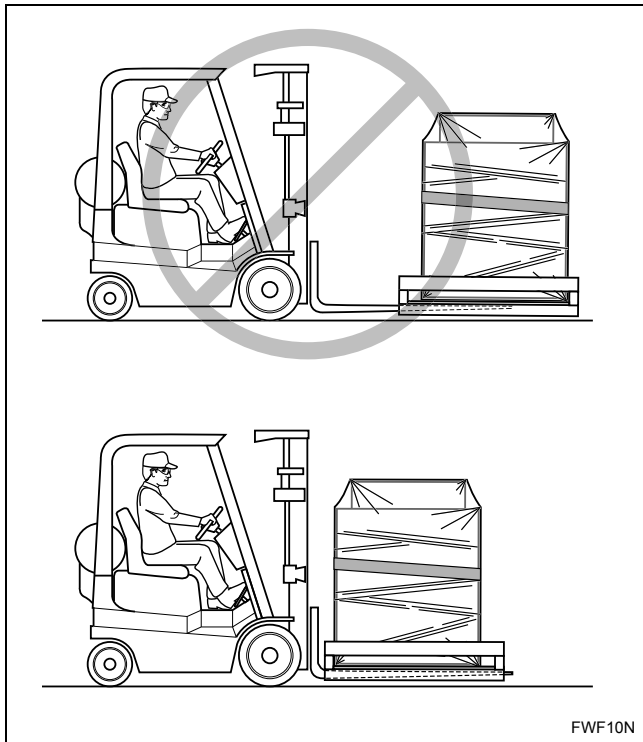

Figure 3
2. Adjust the forklift arms to their maximum length and width and insert them all the way under the center of the skid. Refer to *Figure 3*.